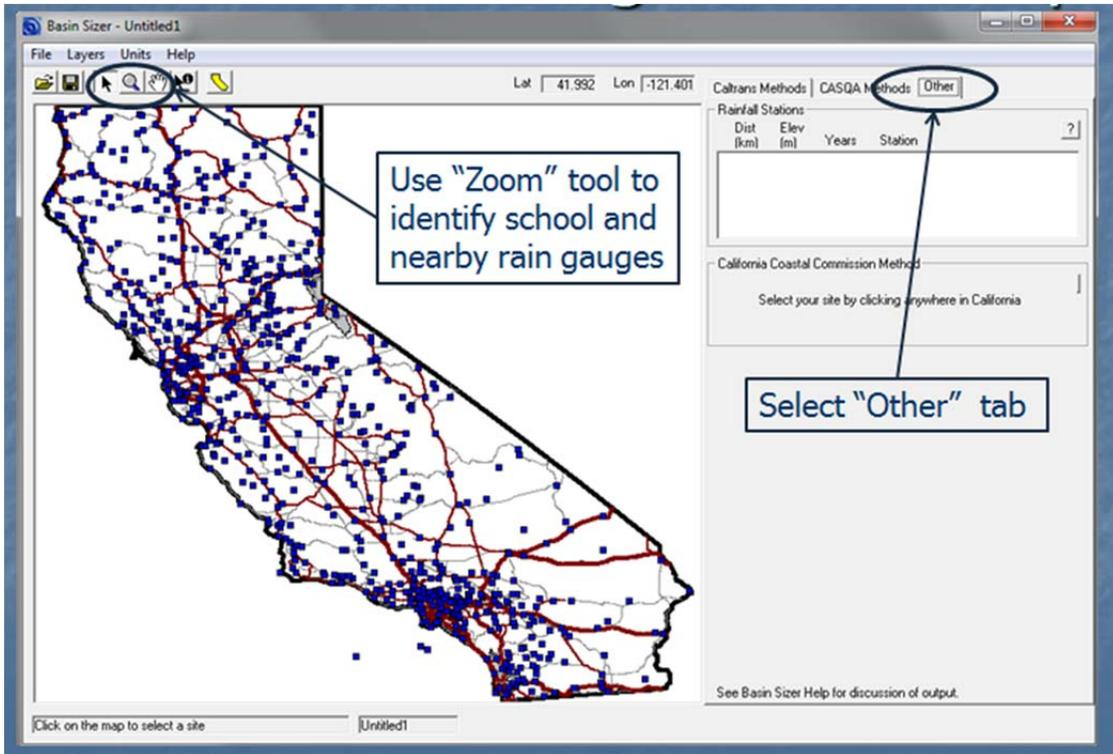

Figure 1. Basin Sizer – Select "Other" Tab and Zoom to School Location
- ii. Select “Other” tab and zoom to school location (see Figure 1)